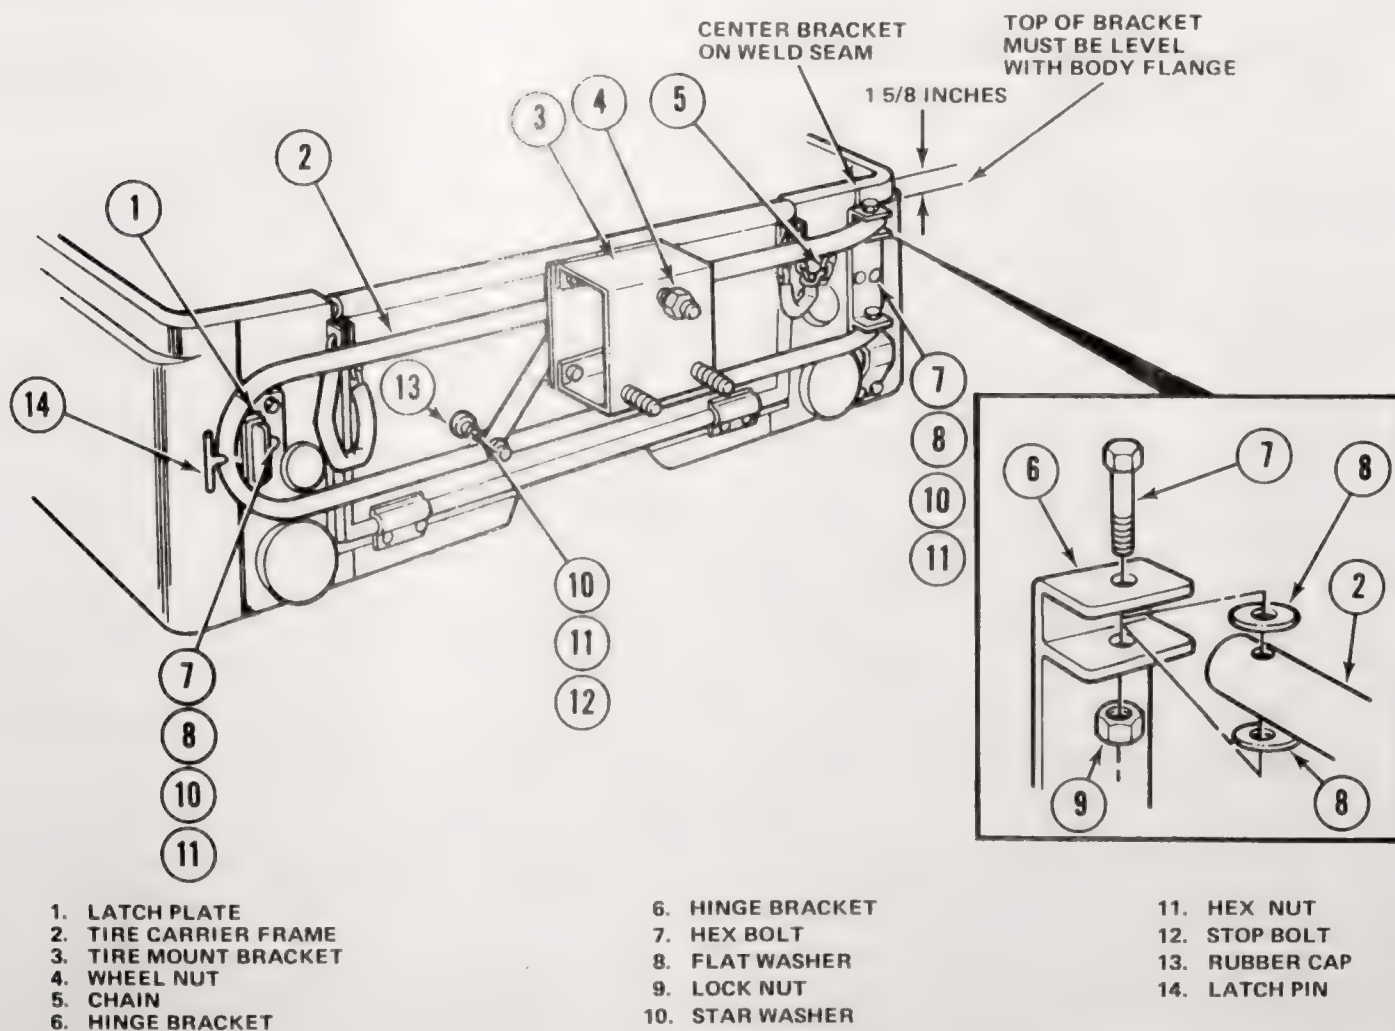

Fig. 6-5 Swing-Out Tire Carrier Installation
The swing-out tire carrier kit should contain the components shown in figure 6-5. Before beginning work, check to see that all items have been included.
- (1) Position hinge bracket on body and center over vertical seam on right corner of vehicle body (fig. 6-5). Mark and drill 3/8-inch holes.
- (2) Install hinge bracket using hex-head bolts, flat washers, star washers, and hex-head nuts. Tighten nuts to 18 foot-pounds torque.
- (3) Position tire carrier frame in hinge bracket and install hex-head bolts, flat washers, and locknuts.
- (4) Spread split-link of right tailgate chain and attach first-link of chain. Close split-link of tailgate chain.
- (5) Attach free end of chain to hook welded to tire carrier frame.
- (6) Position latch plate on latch pin and hold against vehicle body. Mark and drill 3/8-inch diameter holes.